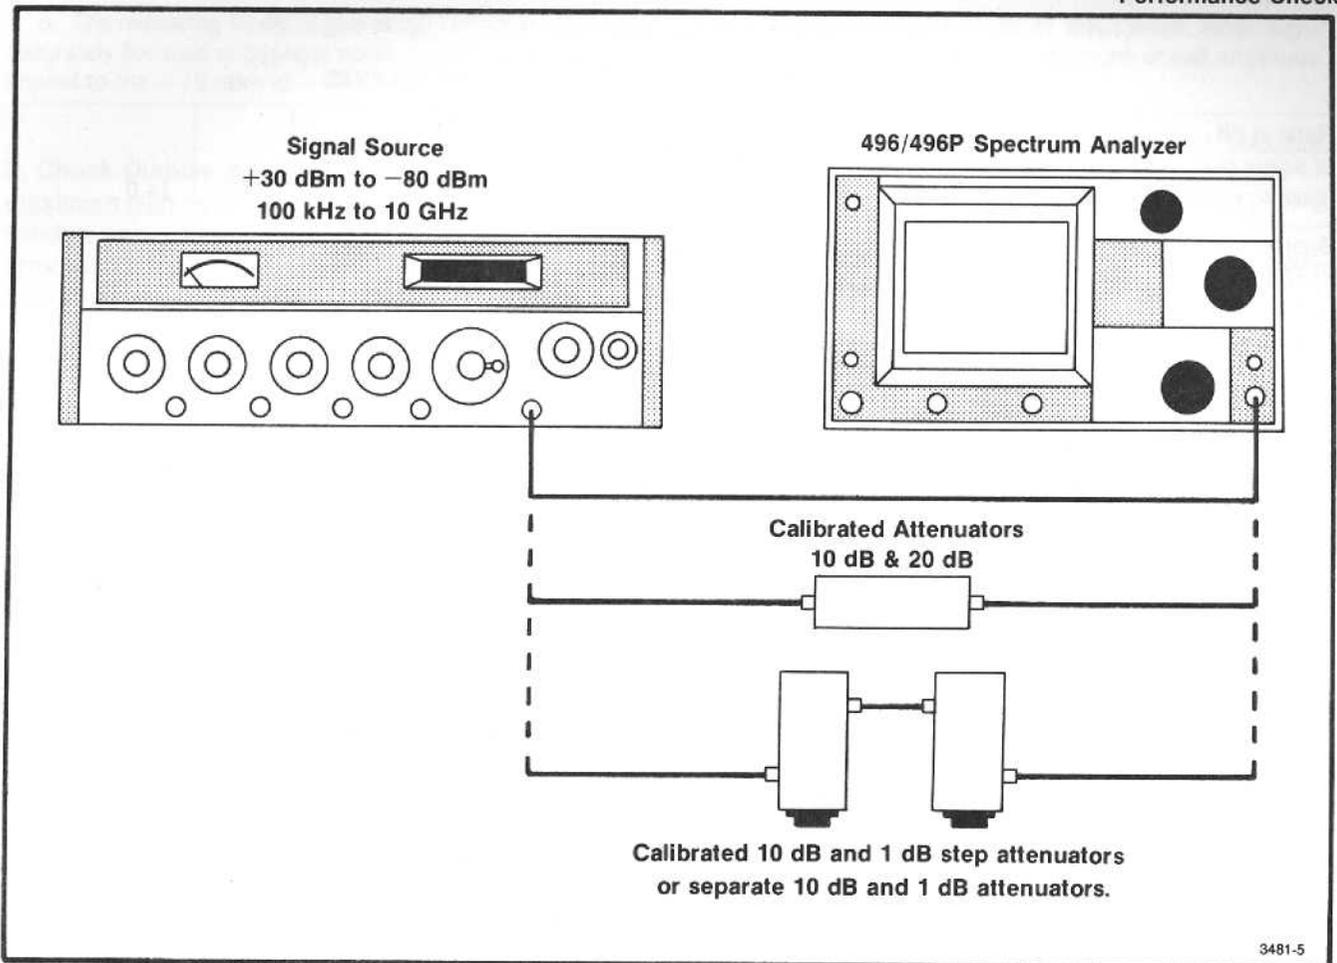

Fig. 3-3. Test equipment setup for verifying attenuator and gain accuracy.
- a. Test equipment is shown in Fig. 3-3. Apply a 0 dBm, 1 GHz signal, from a signal generator through 30 dB of calibrated attenuation to the RF INPUT of the 496/496P. Set the front panel controls as follows:
a. Test equipment setup is shown in Fig. 3-3. Apply a -20 dBm, 100 MHz signal from the signal generator through 1 dB and 10 dB step attenuators (set at 0 dB) to the RF INPUT of the 496/496P. Apply the signal generator directly to the 496/496P if individual fixed attenuators are to be used as the standard. Set the front-panel controls as follows:
a. Test equipment setup is shown in Fig. 3-3. Apply a +10 dBm, 100 MHz signal to the RF INPUT and set the front-panel controls as follows: